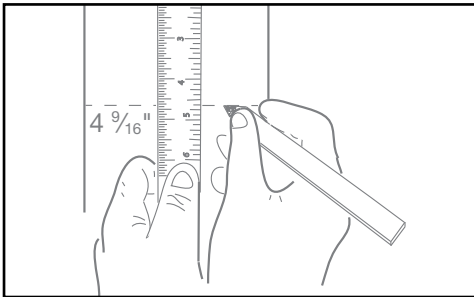

Fig. 4
- Place a mark 4-9/16" below the Hand Rail lay out line to establish placement of the Hand Rail bracket - Fig. 4. This mark denotes the bottom edge of the Hand Rail mounting bracket.